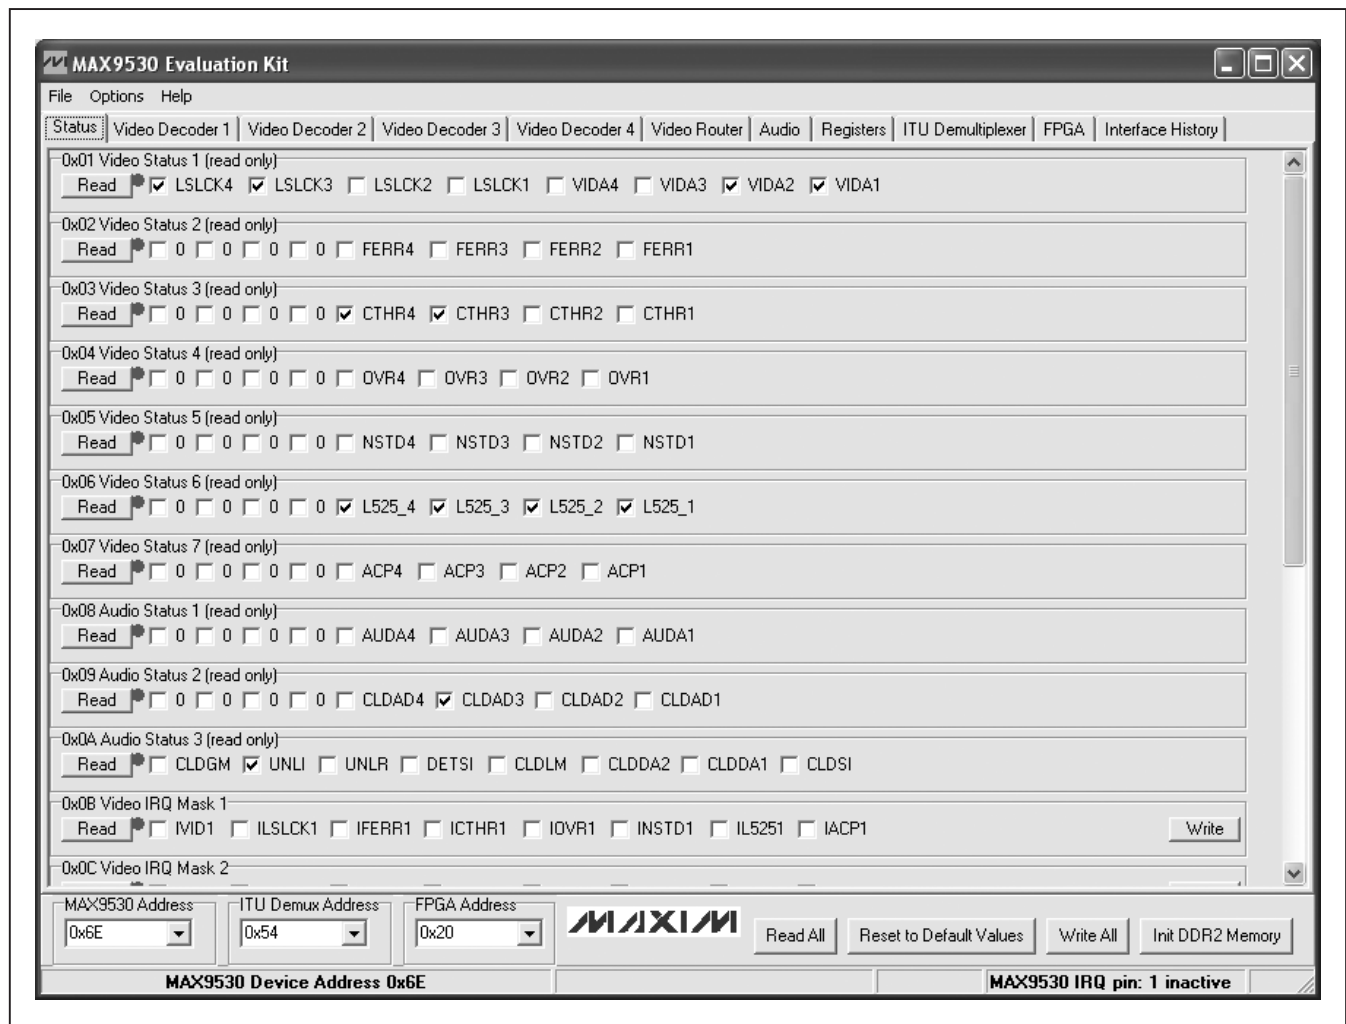
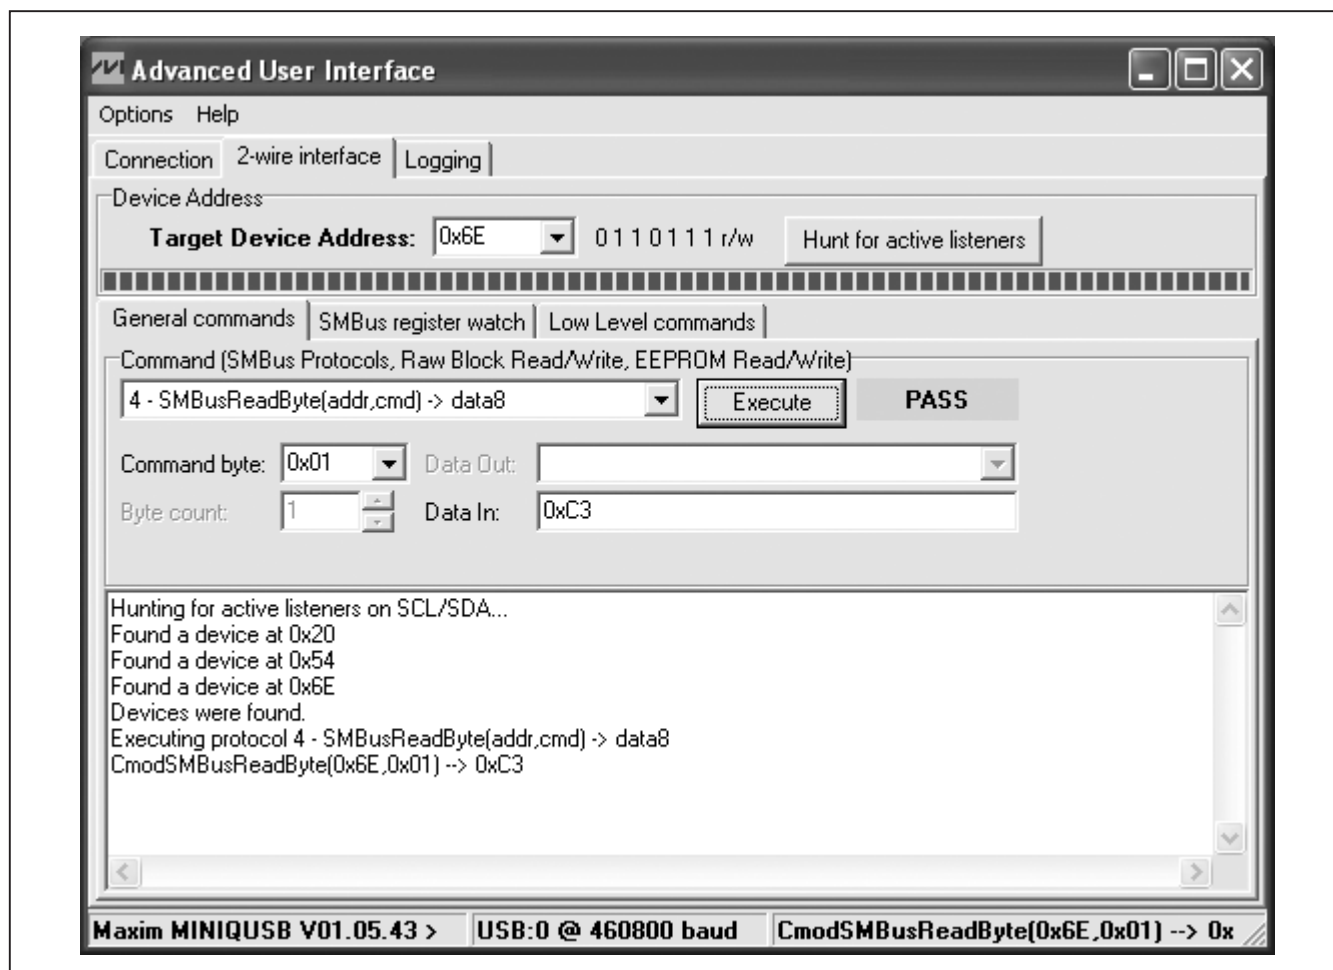

Figure 1. MAX9530 EV Kit Software Main Window (Status Tab)
Figure 4. Advanced User Interface Window (2-Wire Interface Tab)
- 7) Start the EV kit software by opening its icon in the **Start | Programs** menu. The EV kit software main window appears, as shown in Figure 1. Wait as the software is **searching for hardware** and then for the software to load two default configuration files before proceeding.
The **Status** tab sheet (Figure 1) provides direct access to all the registers of the device. Each register has its own **Read** and **Write** buttons. The small circle next to the **Read** button turns yellow to indicate an attempt to read or write, red to indicate a failed read or write, and green to indicate a successful read or write operation. The other tab sheets work similarly. The **Registers** tab sheet has all the IC's segment 0 registers, while the **Status**, **Video Decoder**, **Video Router**, and **Audio** tab sheets each contain a subset of the device registers.
There are two methods for communicating with the IC. The first is through the windows shown in Figures 1, 2, and 3, and the second is through the **Advanced User Interface** window shown in Figure 4. The **Advanced User Interface** window becomes available by selecting the **Options I Interface (Advanced User)** menu item and allows execution of serial commands manually.